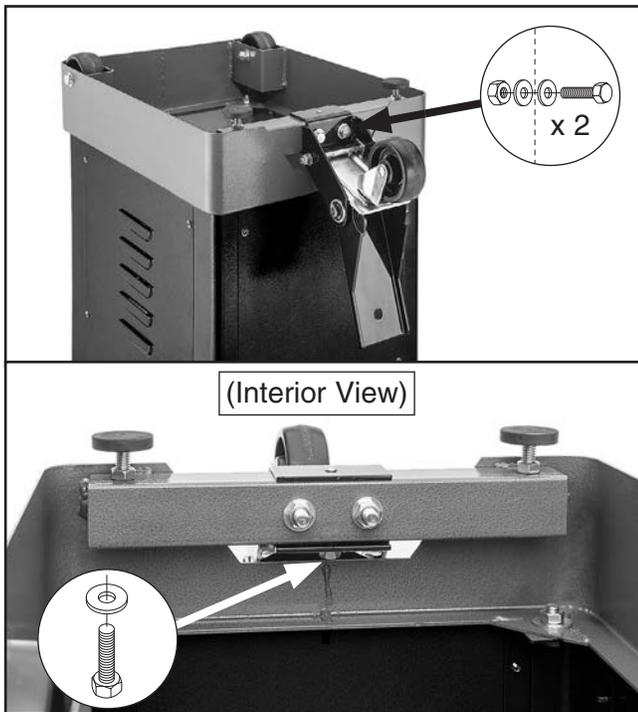

Figure 9. Pedal assembly attached to right side of stand.
2. Attach foot pedal caster assembly to side of mobile base chassis with leveling feet, using (2) $\frac{3}{8}$ "-16 x 2 $\frac{1}{2}$ " hex bolts, (4) $\frac{3}{8}$ " flat washers, (2) $\frac{3}{8}$ "-16 hex nuts, and (1) $\frac{5}{16}$ "-18 x 2" hex bolt and (1) $\frac{5}{16}$ " flat washer (see **Figure 9**).